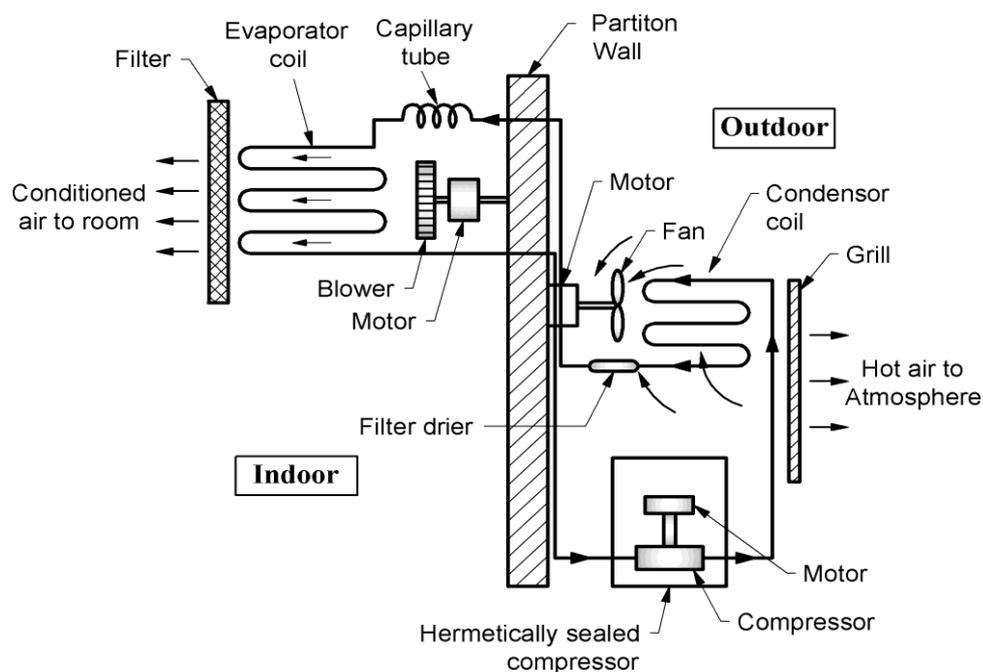

Fig. 3.2. Layout of split air conditioner.
- A split air conditioner is similar in operation to a window room air conditioner except the components are split into two separate units instead of being entirely enclosed in a single unit as in window room air conditioner as shown in Fig. 3.2.